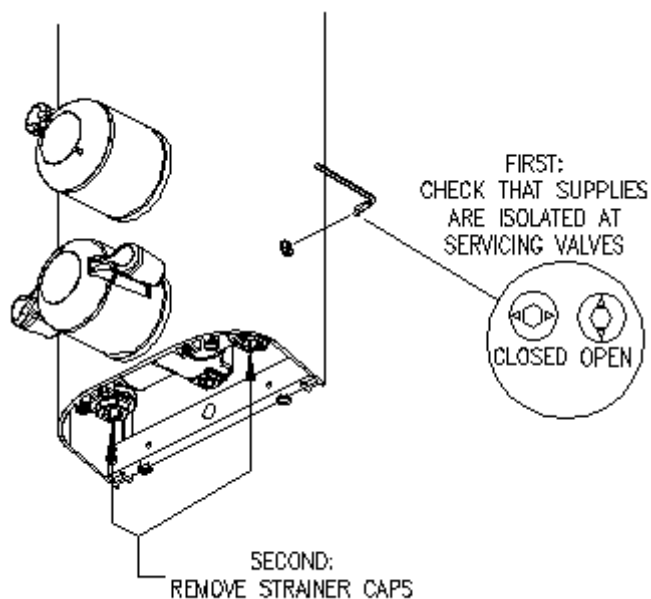

Fig.5
Access to the flushing points is gained from underneath the casing through the lower end cap. Isolate the water using the low-level servicing valves located on the side of the panel (Figure 5) using a 4mm hex key. Remove the strainer cap with the strainer basket and screw in the flushing adapter. Place the end of the flushing hose in a drain or container and turn on the supply to flush AT FULL BORE until any pipework which has been worked on is cleared. After flushing, remove the flushing adapter and replace the strainer cap. Repeat for both hot and cold supplies. See Figures 5 and 6.
Ensure that the TSV-MDV on/off control is closed (in the central, 12-o'clock, detent position) and open the supplies. Open the servicing valves on the panel casing (See Figure. 5). Adjust the temperature control and check for any water leaks upstream of the thermostatic valve. Make good any leaks found. The valve is now ready for commissioning.
- 2.5.1 Finally, check the thermal shut-off facility of the TSV-MDV by performing a Cold Isolation Test (sometimes colloquially called a “fail-safe” test) as follows. With the shower running full, close the cold (i.e. right side) servicing valve. [The Servicing Valve is closed when the arrows are in the horizontal position, and open when they are in the vertical position: see Figure. 5]. If there is any flow after 5 seconds, this must amount to no more than 120ml in 60 seconds of collecting. If there is more than this amount, find possible corrective actions in the “Maintenance” section below. If the Cold Isolation Test is satisfactory, restore the supply and note the final stabilised temperature in the commissioning log. This should be within 2°C of the original temperature, and must not exceed 43°C. Generally, the mixed water temperature should not rise by more than 2.9°C during this cold-water isolation test. Record the result of this on the attached commissioning sheet.